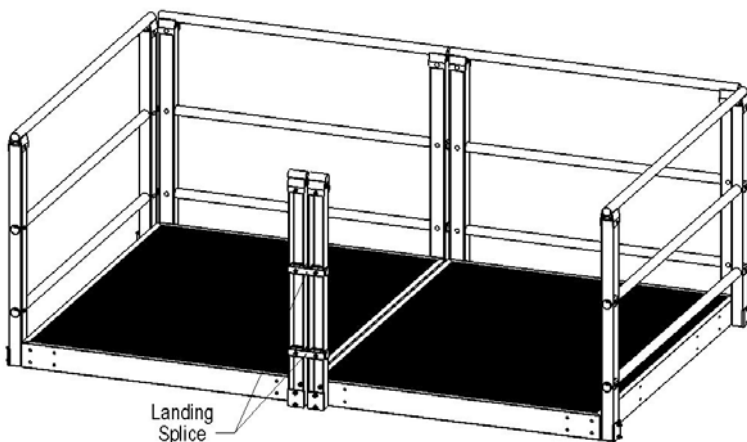
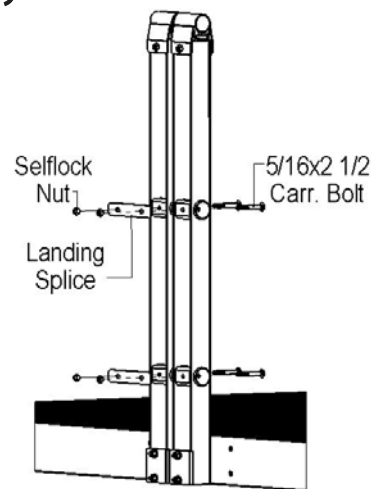

Fig.3.13
Fig.3.14
3.4 Multiple Platform Base Assembly: Position both bases with handrail fully assembled, and the legs attached side by side (Fig.3.13). Remove the 5/16 x 2½ carriage bolts from the handrail post middle, and bottom handrail tubes (Fig.3.14). Place a platform splice on the inside of the platform post at both the middle and bottom handrail locations. Replace the 5/16 x 2½ carriage bolts with 5/16 x 2½ carriage bolts supplied with the platform handrail splice kit. Push carriage bolt through all, after the clamp adapters have been replaced place a platform splice over the carriage bolts at the middle and bottom handrail location. Fasten all with self locking nuts.